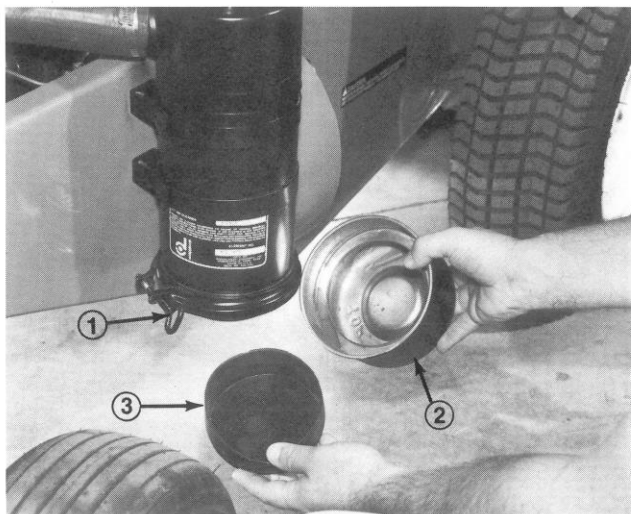

Figure 43
1. Loosen thumb screw until dust cup and baffle can be removed (Fig. 43). Separate dust cup and baffle (Fig. 43).